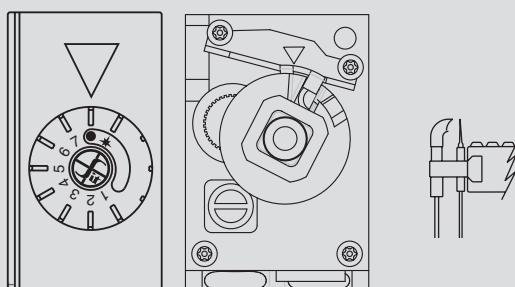
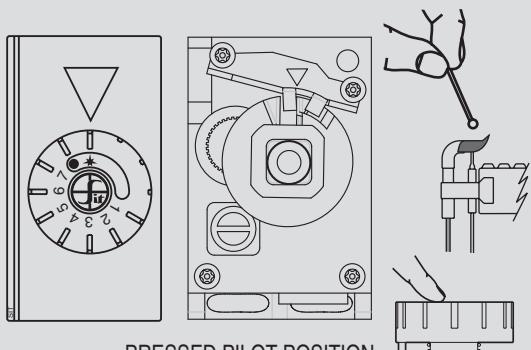

Fig. 1
Fig. 2
Starting from OFF ● position (Fig. 1), push and at the same time turn the knob to the pilot position ⚡ (Fig. 2).
Depress the knob and ignite the pilot flame (Fig. 2). Keep the knob depressed for several seconds.
Turn the knob to Off ● position, until the lock click (Fig. 1).
**CAUTION:** In the brass knob version, the constructor of the appliance must guarantee the correct position of the symbols, defined by norm EN 1106:2001 § 6.4.1, on the knob coupled by himself, as shown in Fig. 1, 2, 4 and 5. Those symbols must be according with norm EN 13611: 2000 § 7.8.6.